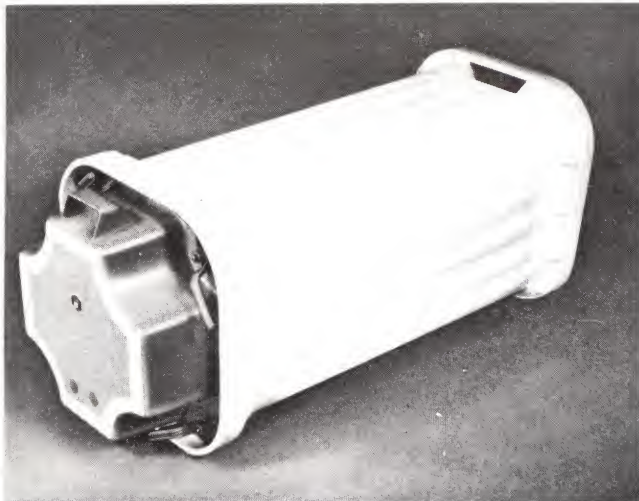

Figure 4-1. Container for Mk 12 Guidance and Control Group.
**4-1.1 GUIDANCE AND CONTROL GROUP CONTAINERS.** Two Mk 12 GCGs are shipped from the depot in each Mk 270 Mod 1 container, figure 4-1. Containers for the Mk 12 guidance and control group are white and have a white band painted on the gray lid. The support-tube inserts and the plastic extractor used in packing this section are also white. Two colored dots on the lid of the container show which of the four color-coded crystal oscillators are installed in the two GCGs in that container.